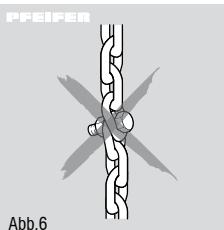

Abb. 6
- The load chain must not be used as chain ing (Fig. 6), nor may it be pulled across sharp edges.